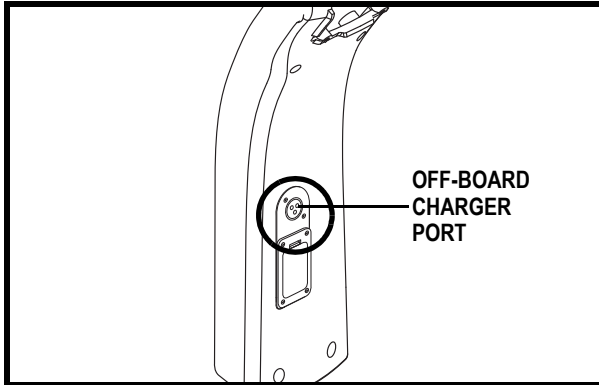

Figure 6. Off-board Charger Port
The off-board charger power cord plugs into this port when charging the batteries. See figure 6.
4. Plug the 3-pin charger power cord into the off-board charger port. See figure 6 and 12.